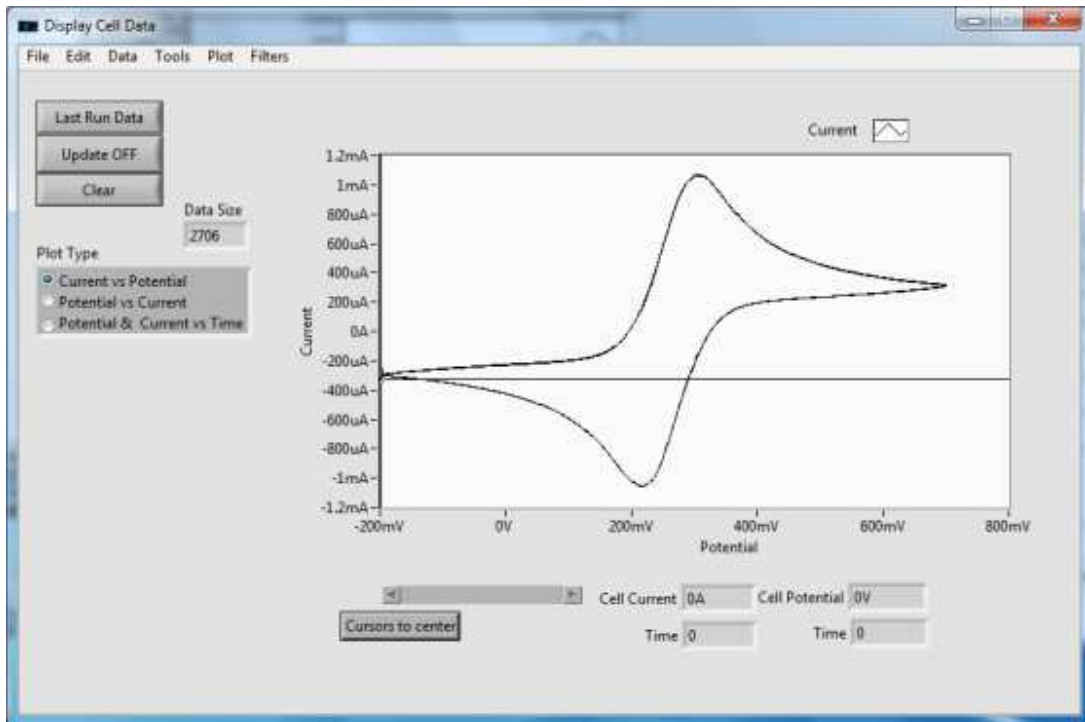

**Figure 33.** Starting the recipe
- When the recipe is complete, the experiment can be started by clicking **Start** in [NuVant EZware] (Fig. 33).